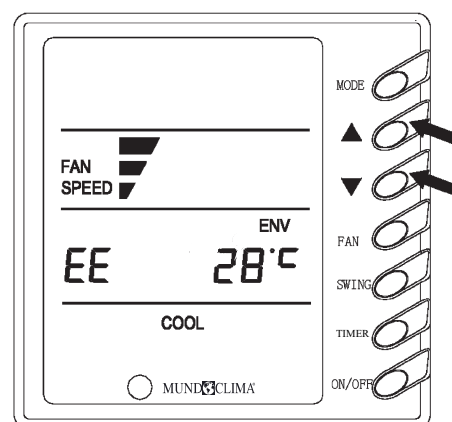

Fig.9
12) Button lock function (Fig.9):